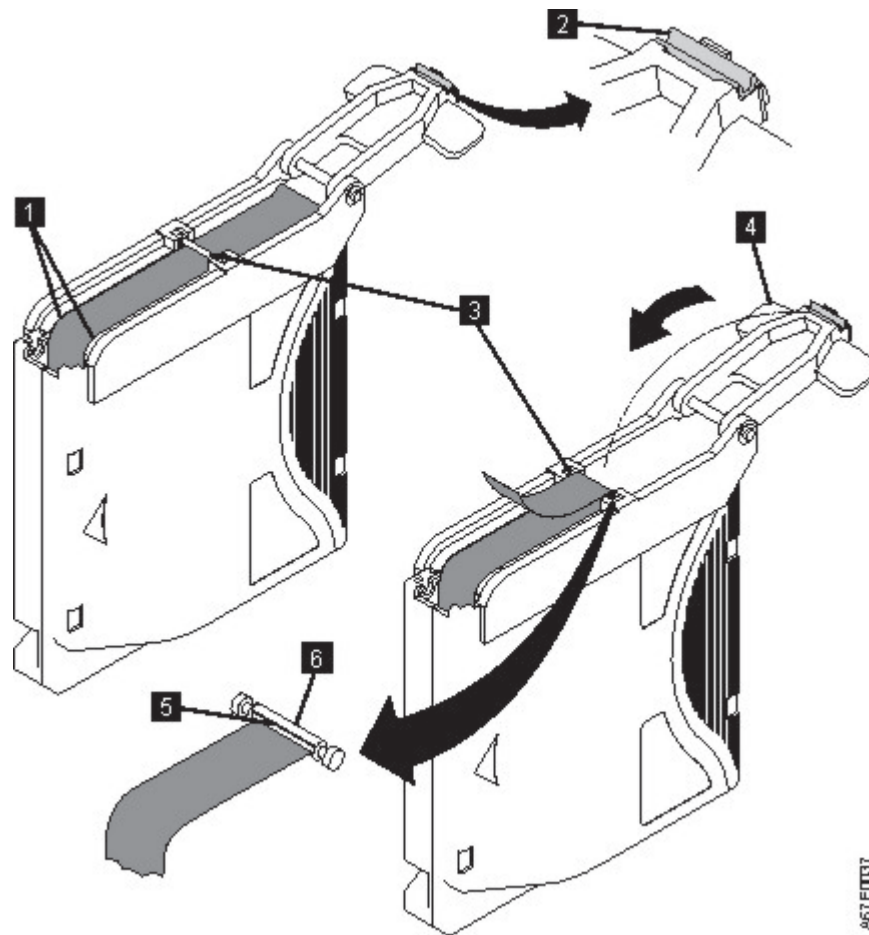

Figure 109. Attaching the leader pin to the tape
7. Position the tape in the alignment groove of the leader pin attach tool (see 1 in Figure 109 on page 228).
8. Place a new C-clip into the retention groove (2 (Figure 109 on page 228) on the leader pin attachment tool and make sure that the clip's open side faces up.
9. Place the leader pin (from step "6" on page 227) into the cavity (3 (Figure 109 on page 228) of the leader pin attach tool.
10. Fold the tape over the leader pin and hold it with your fingers (see Figure 109 on page 228).